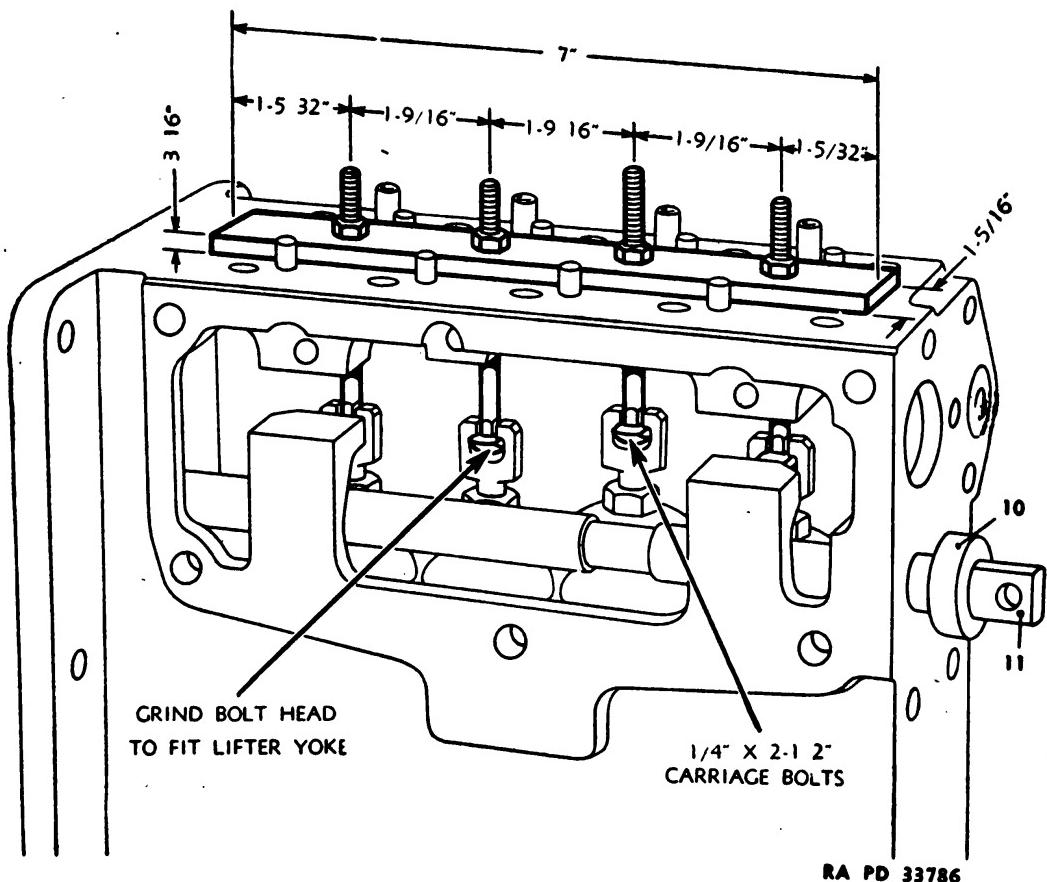

FIGURE 63.—Plate construction for the removal of fuel injection pump lifter springs.
- b. With a plate (fig. 63) constructed as shown, hold up lifter assemblies with carriage bolts or wire the lifters in position and then remove fuel injection pump camshaft after thrust plate and bearing assembly have been removed.